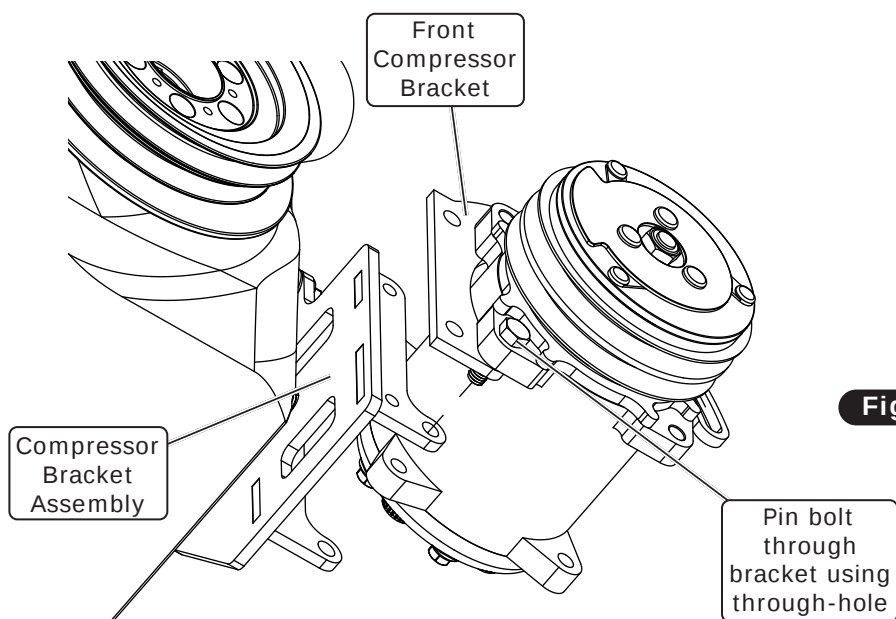

Figure 4
6. Install the compressor with the front compressor bracket onto the compressor bracket assembly by pinning the bolt through the bracket using the through-hole as shown in Figure 4, below. **NOTE: This will support the compressor for the next steps.**